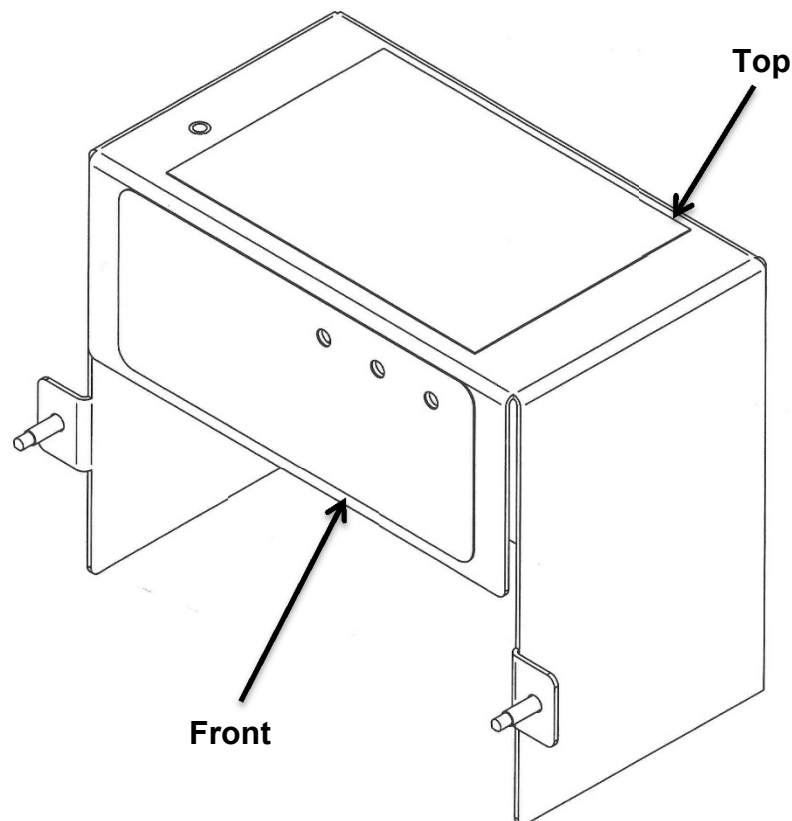

Figure 3-1
3. With the two self-tapping screws provided, mount the MSB Control Box to the back of the light support per diagrams, Figure 3-1 through 3-8.